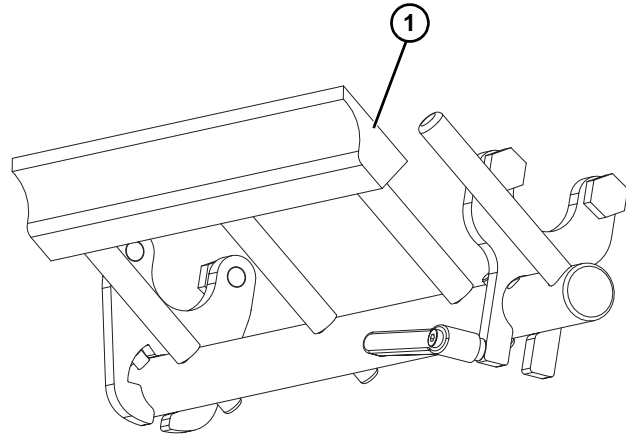

Figure 43
*When installing scraper, make certain that flat portion of scraper (**Figure 43, item 1**) is facing toward belt as shown.*